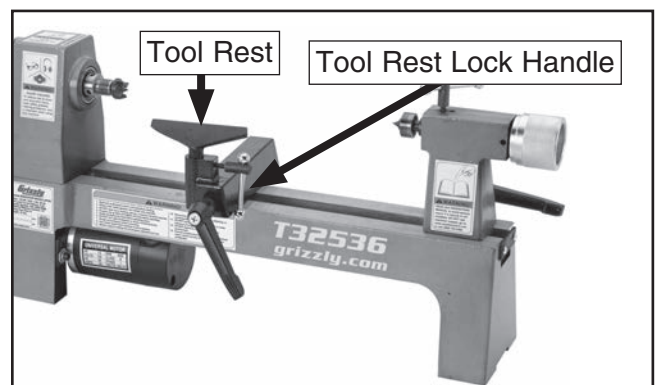

Figure 9. Tool rest installed in tool rest base.
3. Insert tool rest into tool rest base and tighten tool rest lock handle (see **Figure 9**).